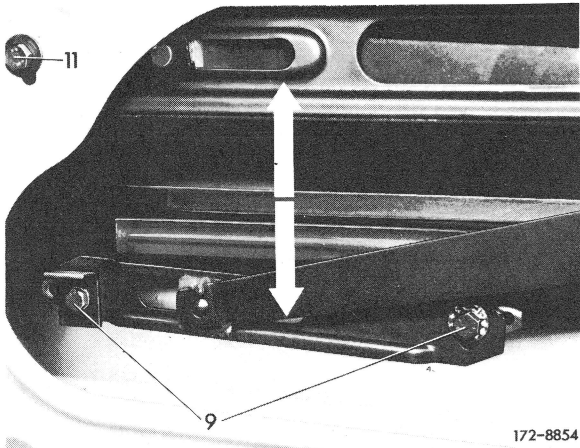

Fig. 4
**Note:** Additional adjustments can be made by means of rear screw (11) of window opener (Fig. 4).
**5** Adjust pane by means of the two front screws (17) in such a manner that pane rests against front sealing rubber at moderate pressure when door is closed.